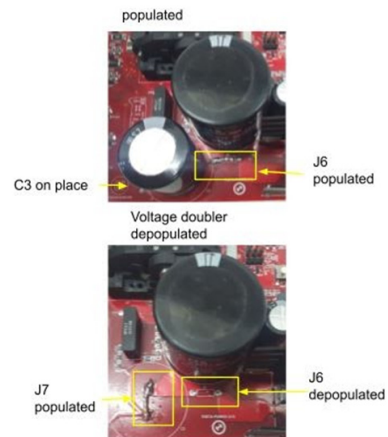

Figure 7. AC Rectifier – 120 V or 230 V Configurations
See Figure 7 to check the high voltage connectors positions.
**WARNING:** Do not use voltage doubler topology with 230 VAC input: it will result in serious damage. Figure 7 shows both configurations. When using voltage doubler topology the high voltage DC bus is roughly twice the input peak voltage.